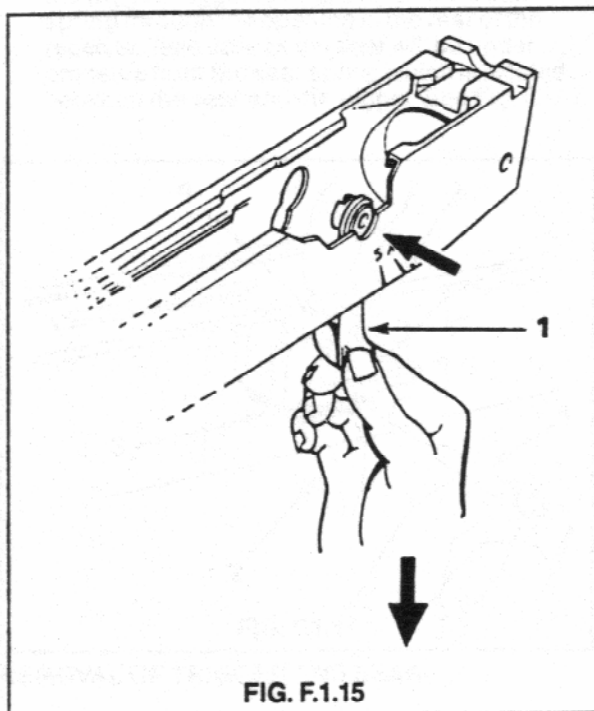

FIG. F.1.15
15. Remove the Left Hand change lever from its axis hole in the side of the receiver, withdraw the lever through the hole in the bottom of the receiver. See Fig. F.1.15.